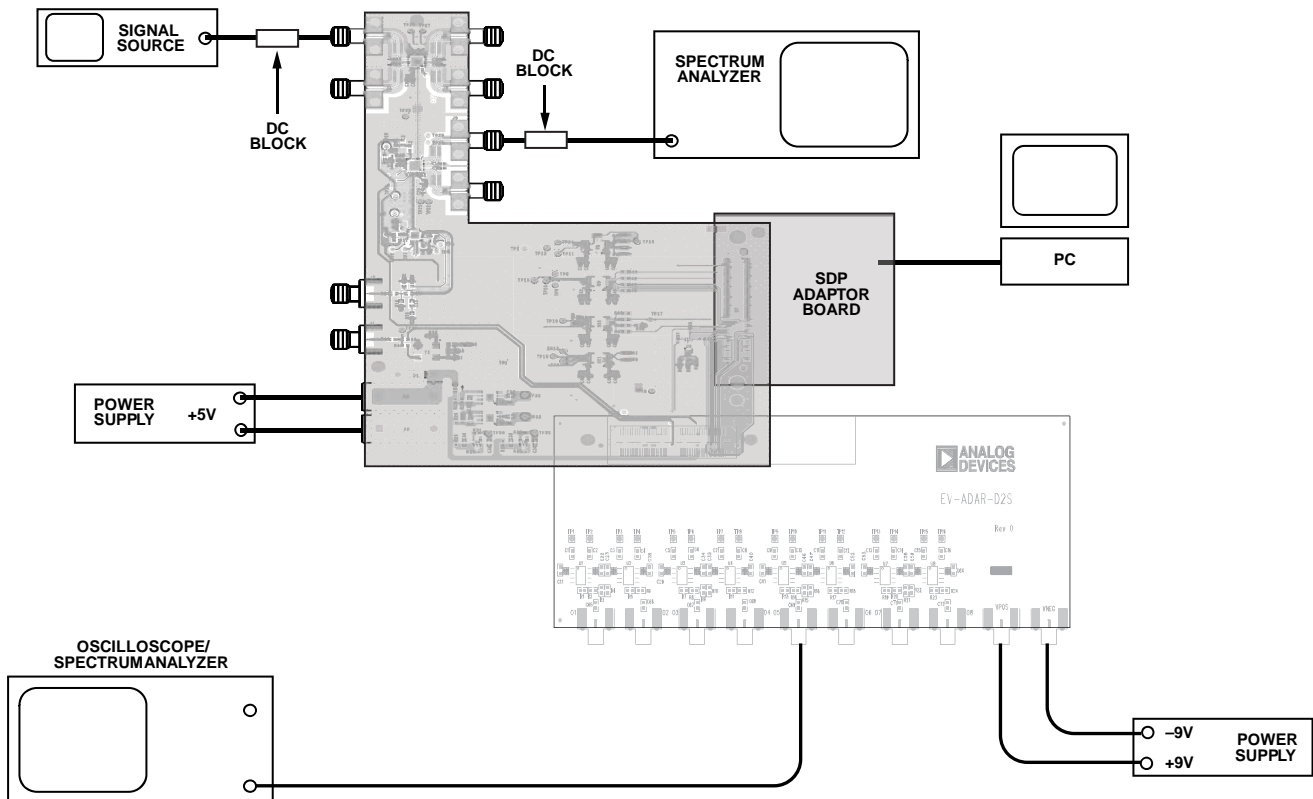

Figure 7. Typical Evaluation Setup
11. In the **ADF5901 Controls** tab, click **Initialize ADF5901** to power up and calibrate the ADF5901. See Figure 7 for a typical setup.